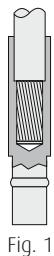

Fig. 1
- Assemble the contact onto the end of the cable – make sure all the strands are within the crimp body. The cable insulation should also go inside the crimp barrel – see Figure 1.